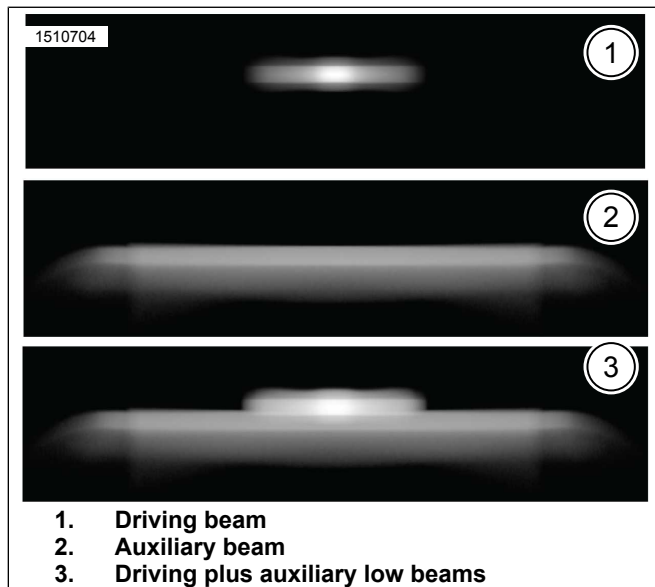

Figure 12. Auxiliary Lamp Install
- c. See Figure 12. Turn on auxiliary low beams, align all three beams.